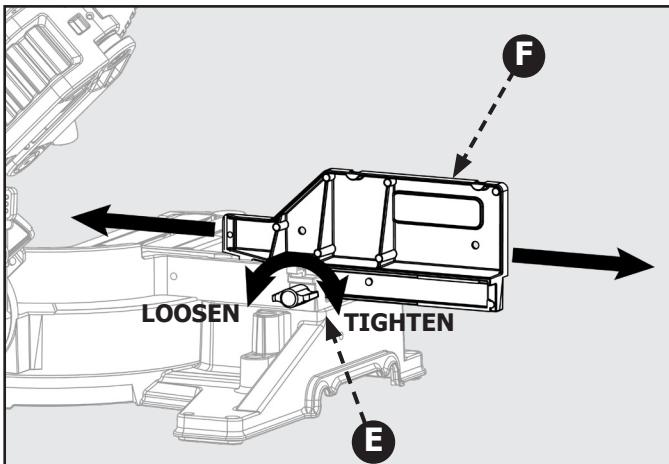

Figure 34
This saw is equipped with an adjustable extension fence. To extend or retract the fence refer to Figure 34 and follow these instructions: Loosen the lock knob (E) by rotating counterclockwise and the slide the fence (F) into the desired position. Make sure to re-tighten lock knob (E) by rotating clockwise.
**DANGER:** Always check to make sure lock knob (E) is tightened before making a cut. Failure to do so may result in injury.